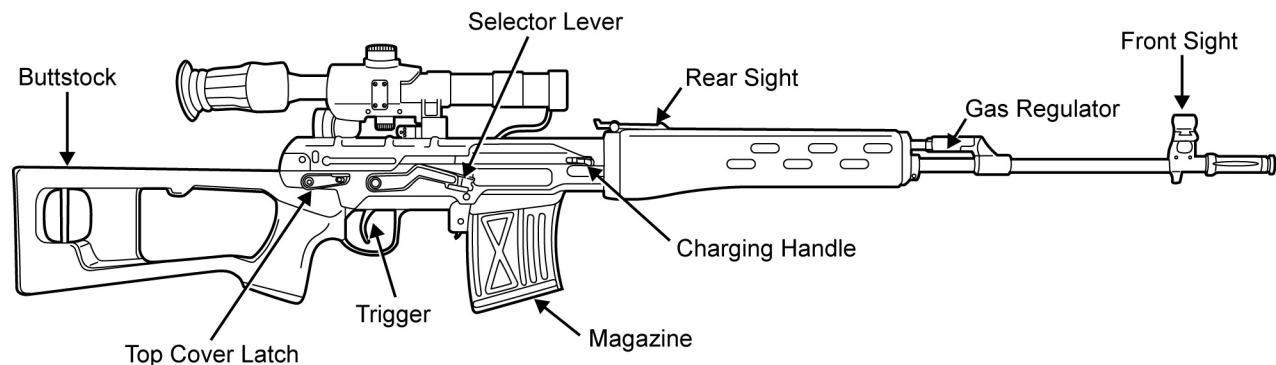

Figure 2. Right Side of SVD Sniper Rifle.
4. **Right Side View.** The right side view of the weapon reveals the buttstock, top cover latch, trigger, selector lever, magazine, charging handle, rear sight, gas regulator, and front sight. Refer to Figure 2.